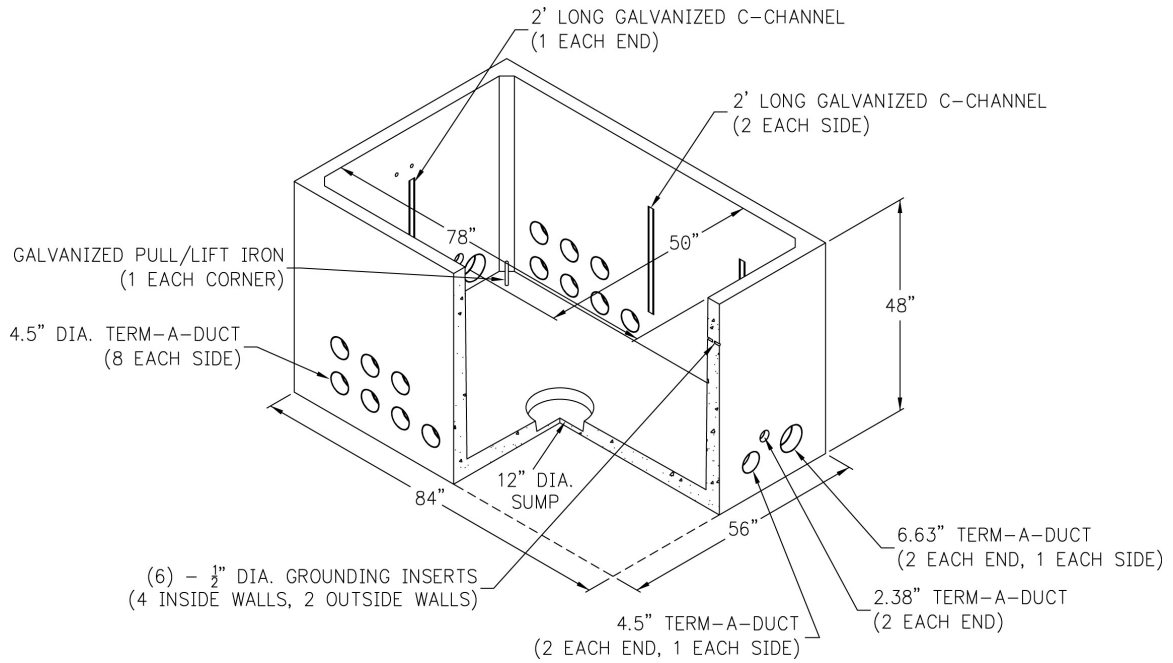
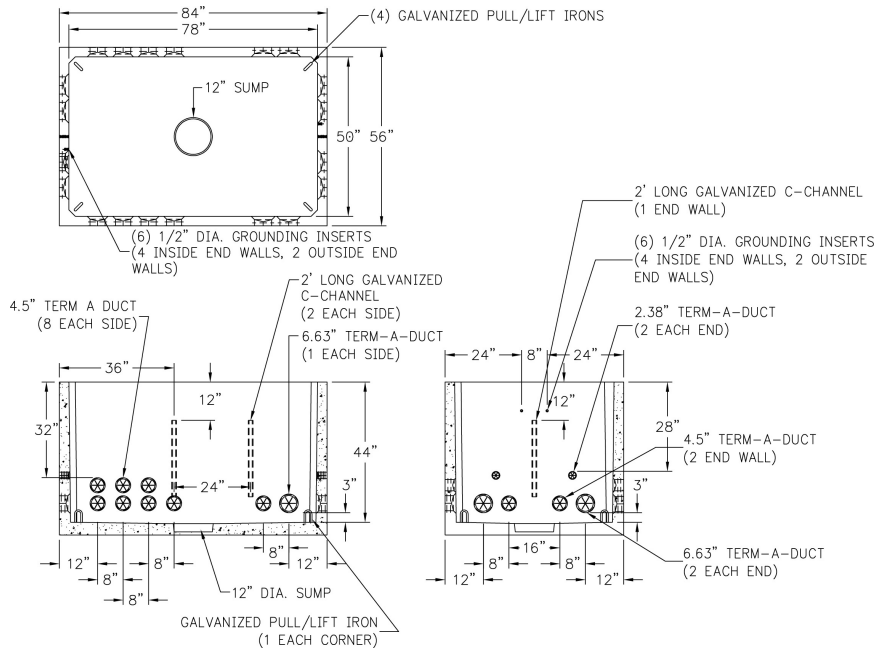

Figure 1 — 5' x 7' (56" x 84") Vault, Cutaway View
Figure 2 — 5' x 7' (56" x 84") Vault Enclosure Layout
3090369, VAULT, METERING, 3-PHASE, 200A (refer to Figures 1, 2, & 3)
Figure 1 and Figure 2 show the assembled 5' x 7' (56" x 84") vault layout with dimensions. Unless otherwise approved by company engineering, all dimensions and placement of hardware shall conform to those shown in Figure 1 and Figure 2. Vault enclosures shall be constructed to ASTM C857 A-16, and to the holding strengths of the pulling eyes or irons.
The padvault shall be constructed with Term-A-Duct or equivalent conduit entrances compatible with PVC, polyethylene (PE), or fiberglass 90°C-rated electrical-grade conduit. The standard conduit entrance locations are as follows, and are also shown in Figure 2: